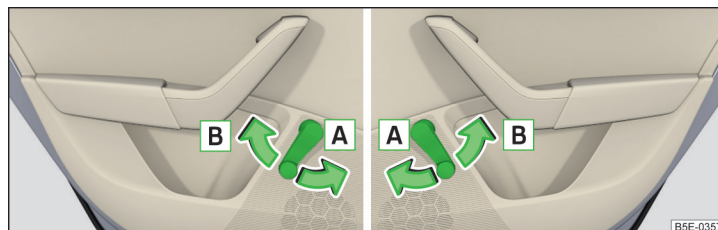

Fig. 41 Window operation: Left/right
- To **open**, turn the crank in the direction of arrow » Fig. 41.